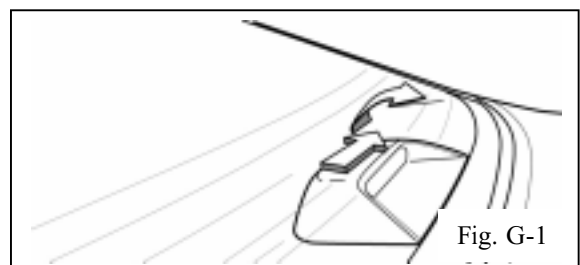

Fig. G-1
1. In backseat - grasp the CHMSL housing and push it to the left (passenger side) to disengage clips. Lift the forward most edge of the CHMSL housing and remove it from the package tray. (Fig. G-1)